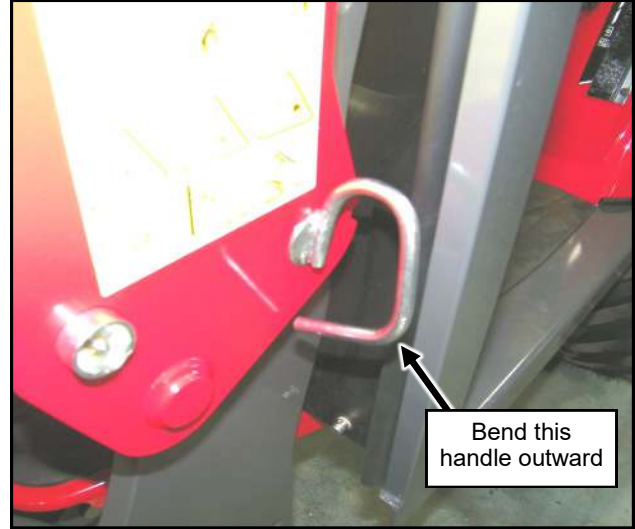

Fig. 1.8 (Loader Clevis Pin Handle)
- 1.8 (FL1805 Loader Only) Bend the handles on the Clevis pins for the loader outward as shown, to allow the pins to rotate out from behind the side frames. See Fig. 1.8.